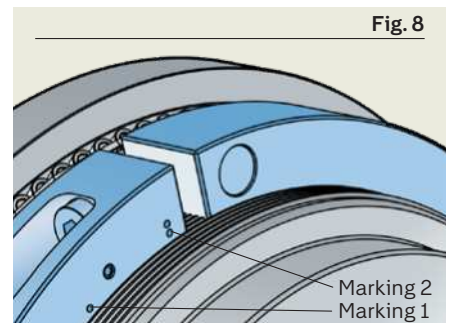

Fig. 8
- 7 Mark the relative position of the nut on the mating thread at the position of the “•” marking (**fig. 8, marking 1**) using a colour marker (**fig. 9**).
- 9 Again hand-tighten the lock nut until the position of the “•” marking (**fig. 8, marking 2**) coincides with the coloured marking on the mating thread (**fig. 10**).
Should the actual clearance exceed the specified calculated residual clearance, the lock nut must be loosened again and the relative position of the “•” marking (**fig. 8, marking 2**) changed. Mounting steps **8** to **11** should be repeated.